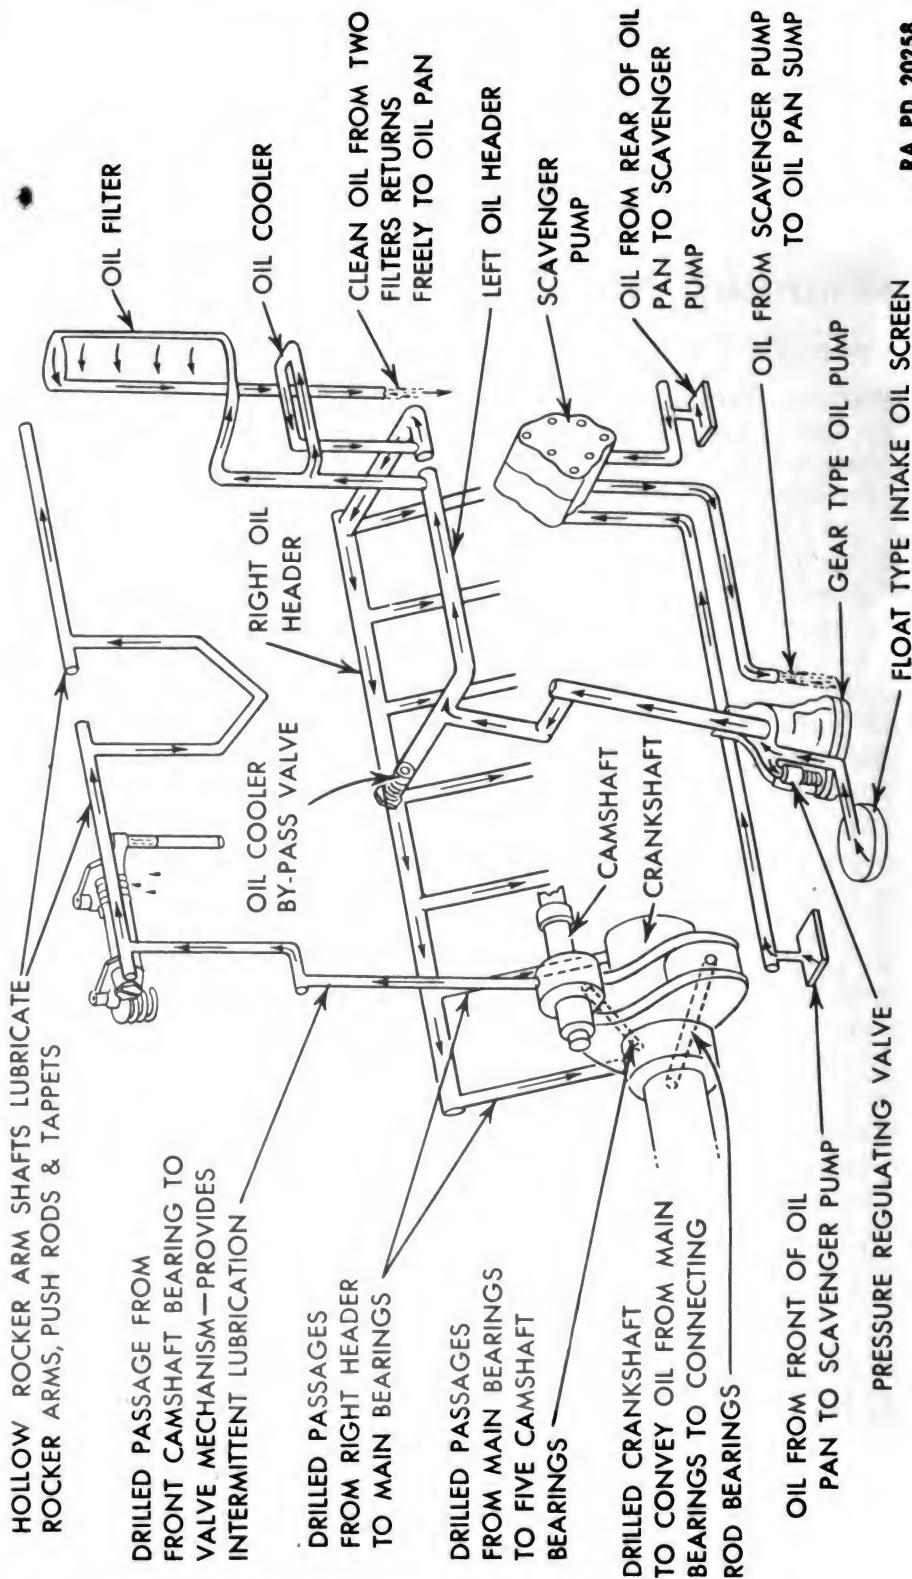

Figure 125 — Engine Lubrication Diagram
a. Description (fig. 125).
(1) ENGINE. The main oil pump is located in the oil pan. It is driven by the camshaft through helical gears. The oil is forced under pressure up through the oil pump body to passages drilled in the crankcase. The crankshaft bearings and the camshaft bushings are lubricated by pressure through drilled holes from the main header drilled through the full length of the crankcase. The connecting rod bearings are lubricated from the main bearings through passages drilled in the crankshaft checks. The piston pins and cylinder walls are lubricated by spray from spurt holes drilled in the lower ends of connecting rods. The rocker arms are lubricated from the front cam bearing through a passage drilled up through the crankcase and front cylinder head to the hollow valve rocker arm shaft. The timing gears are lubricated from the front cam bearing.
(2) SCAVENGER OIL PUMP. The scavenger oil pump is a double gear-type pump mounted on the left side of the crankcase. It is driven by the camshaft through helical gears. One set of gears in the pump draws the oil from one end of the oil pan; the other set of gears draws the oil from the other end of the oil pan. Both sets of gears discharge the oil into a common tube which empties into the center of the oil pan at the main oil pump.
(3) OIL COOLER. The oil cooler is enclosed in the oil filter and cooler base on the left side of the engine. The oil, after leaving the main pump, usually passes through the cooler on its way to the main header drilled in the crankcase. It lowers the temperature of the oil from 35° to 50° F. During cold weather when the oil is thick, or whenever the cooler becomes clogged, the oil is bypassed directly to the main header through a by-pass valve located in the right side of the crankcase.
(4) OIL FILTERS. The two standard military filters are mounted on the oil filter and cooler base. These filters are of the shunt type. Oil reaches the filters directly from the main oil gallery line, and flows freely back to the oil pan after passing through the filters.
(5) Replacement, removal and installation of scavenger oil pump, oil cooler, and oil filters are described in TM 9-786.